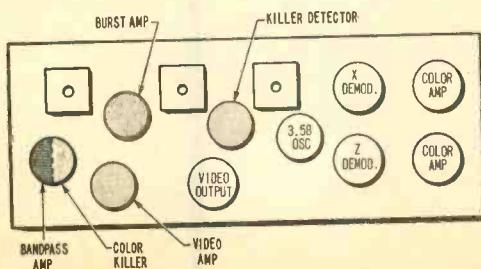

Fig. 6. Typical chroma board found in modern TV sets contain most color tubes. Killer circuit tubes are shown shaded.
**Find-A-Fault.** If all symptoms point toward the color killer stages, begin by checking tubes associated with that section. They're the stages shown shaded in Fig. 6. In many instances, one tube type will contain more than one stage. (For example, color killer and bandpass amp might be in a single 6EA8.) If a tube doesn't cure the